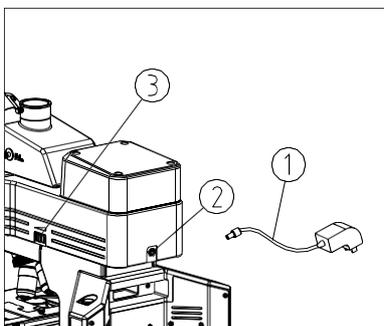

Fig.13
A. External transformer for power supply Connect the external transformer ① into power sockets ② of the LED fluorescence illuminator, and turn on the power. Please make sure the connect is in good condition.(See Fig.13)
(1) Connect one side of the plug ④ to socket ②, and connect the other end to the battery box ⑤ (any port is available), and make sure the connect is in good condition. (See Fig.13,14)